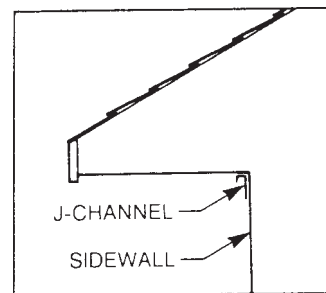

FIG. 24 J-Channel Installation at Top of Sidewall
10.3 *Top of Sidewalls*—If vinyl soffits are to be installed they should be installed before installation of J-channels at the top of all sidewalls. For vinyl soffit installation see Section 11. Install J-channels along the top of all wall areas that will receive vertical siding. Lap where necessary, removing 1 in. (25.4 mm) of the nailing flange of the overlapping piece and lap ½ in. (12.7 mm). (See Fig. 24.)